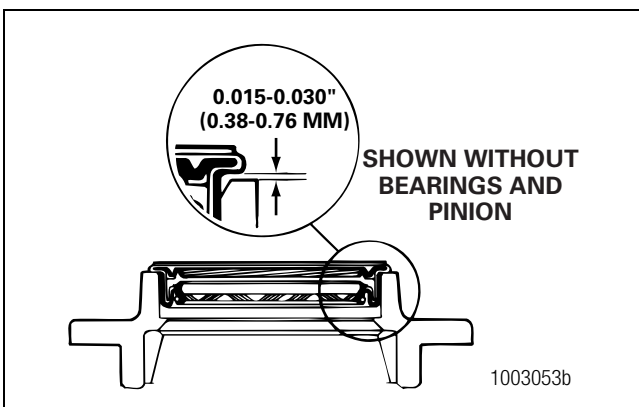

Figure 5.30
- D. After the triple-lip seal is installed, a gap of approximately 0.015-0.030-inch (0.38-0.76 mm) between the flange and bearing cage is normal. Figure 5.30.